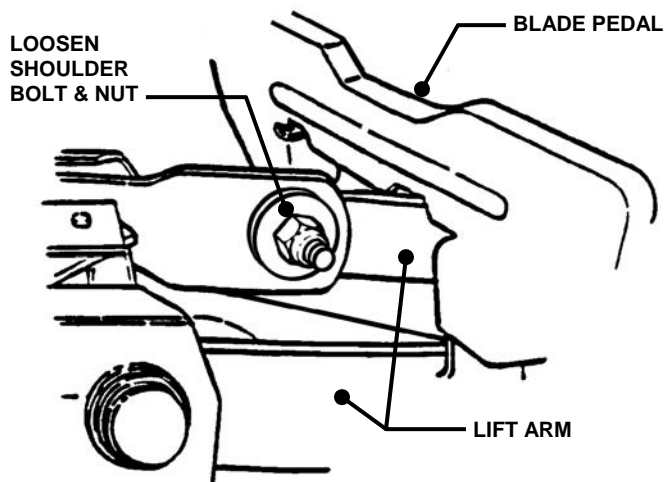

FIGURE 4.3
6. Loosen the shoulder bolt & nut that retains the left side of blade pedal. See Figure 4.3.
7. Move lift arm up or down as required until blade tips are within 1/8" of each other. See Figure 4.3.